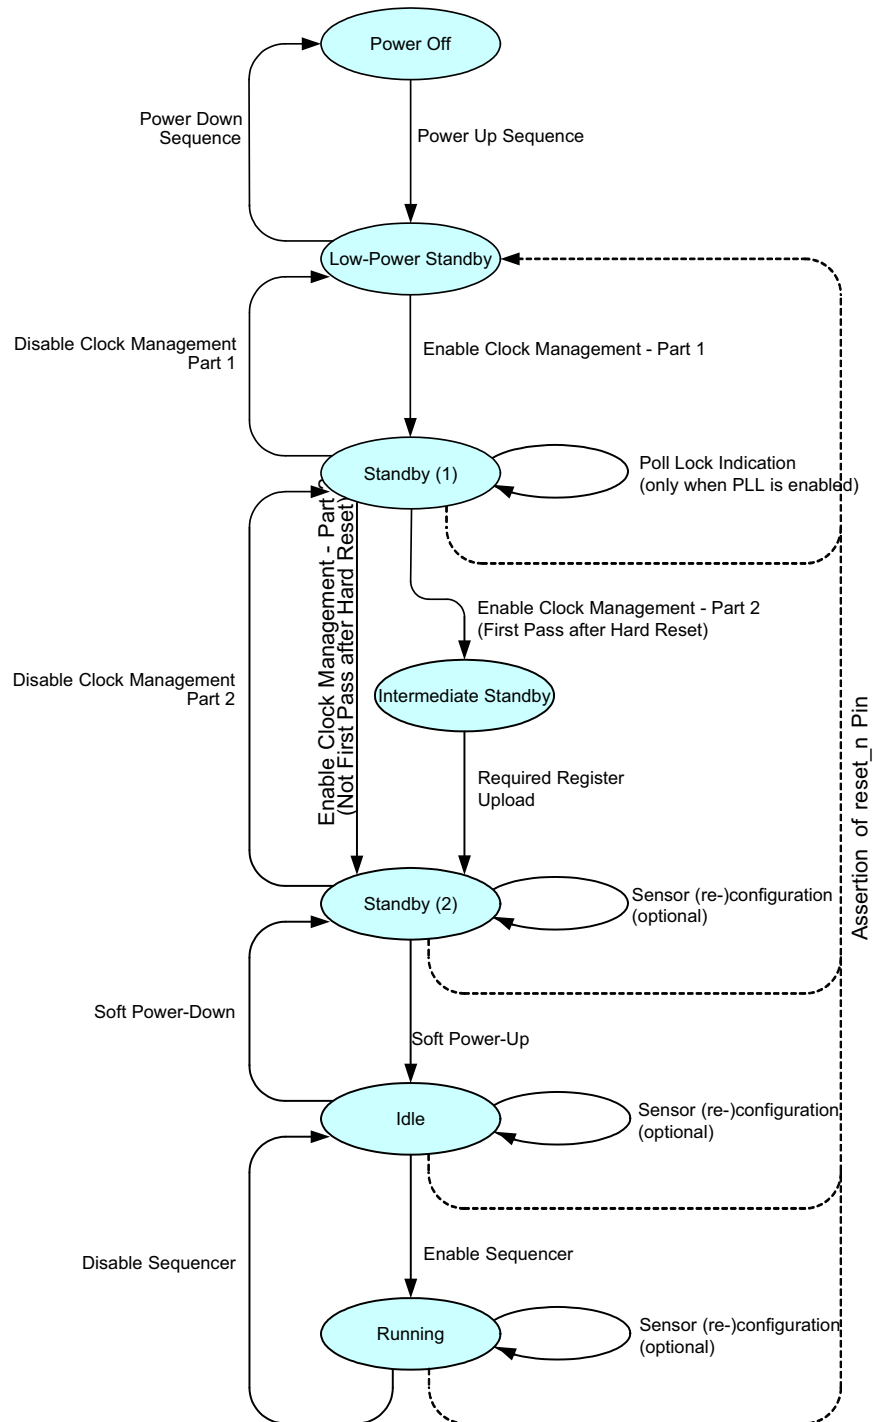

Figure 17. Sensor Operation Flowchart
Figure 17 shows the sensor operation flowchart. The sensor has six different 'states'. Every state is indicated with the oval circle. These states are Power off, Low power standby, Standby (1), Standby (2), Idle, Running.